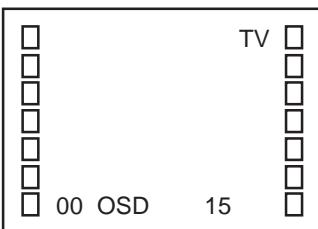

Fig. 1-1
1. In the condition of NO indication on the screen. Press the VOL. DOWN button on the set and the Channel button (9) on the remote control for more than 1 second to appear the adjustment mode on the screen as shown in **Fig. 1-1**.
3. Activate the adjustment mode display of **Fig. 1-1** and press the channel button (02) on the remote control to select "RF DELAY".
3. Activate the adjustment mode display of **Fig. 1-1** and press the channel button (01) on the remote control to select "CUT OFF".
4. Activate the adjustment mode display of **Fig. 1-1** and press the channel button (10) on the remote control to select "R.BIAS".
3. Activate the adjustment mode display of **Fig. 1-1** and press the channel button (16) on the remote control to select "TINT".
3. Activate the adjustment mode display of **Fig. 1-1** and press the channel button **(05)** on the remote control to select "H.PHASE".
3. Activate the adjustment mode display of **Fig. 1-1** and press the channel button **(06)** on the remote control to select "V.SIZE".
3. Activate the adjustment mode display of **Fig. 1-1** and press the channel button **(07)** on the remote control to select "V.SHIFT".
1. Activate the adjustment mode display of **Fig. 1-1**.
4. Activate the adjustment mode display of **Fig. 1-1** and press the channel button **(03)** on the remote control to select "VIF VCO".
2. Activate the adjustment mode display of **Fig. 1-1** and press the channel button **(13)** on the remote control to select "BRIGHTNESS".
2. Activate the adjustment mode display of **Fig. 1-1** and press the channel button **(14)** on the remote control to select "CONTRAST".